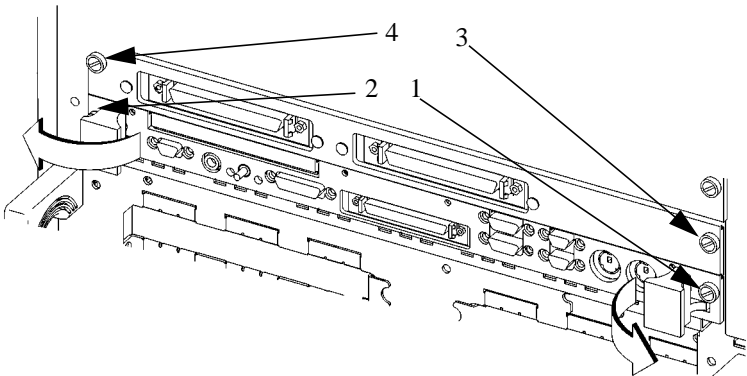

Figure 5-2 Captive Screws: Single and Dual Slot 743
- 1 Loosen the captive screws (labeled 1 and 2 in Figure 5-2) at each end of the board computer which hold the computer in the VMEbus chassis.
- 1** Loosen the captive screws (labeled 1 and 2, 3 and 4, in Figure 5-2) at each end of the board computer and the Extension panel.